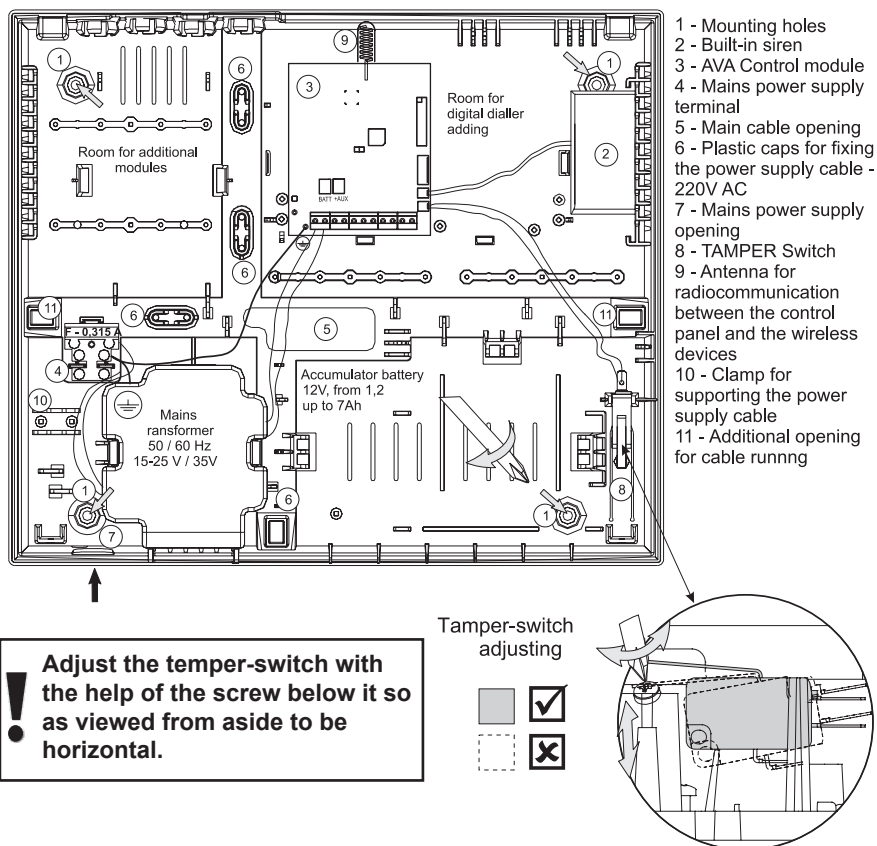
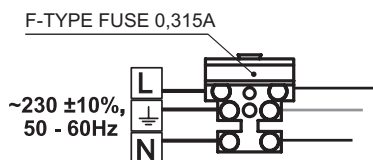

Figure 11. Location of the modules in the box and the electrical connections among them.
Figure 12. Connecting to the mains terminal.
2. Install the back of the box on the wall and adjust the tamper-switch as shown in Figure 11.
3. Run the mains cable (for 230V AC, 50/60Hz) through opening 7, shown in Figure 11 and connect it to the mains terminal – Figure 12. Use one of the three plastic caps to fix the mains power cable in Clamp 10 (Figure 11). With the additional provided spare parts kit use the two screws (tapping screw 2.9x13 cross slot DIN 798) to secure the cap to the clamp.